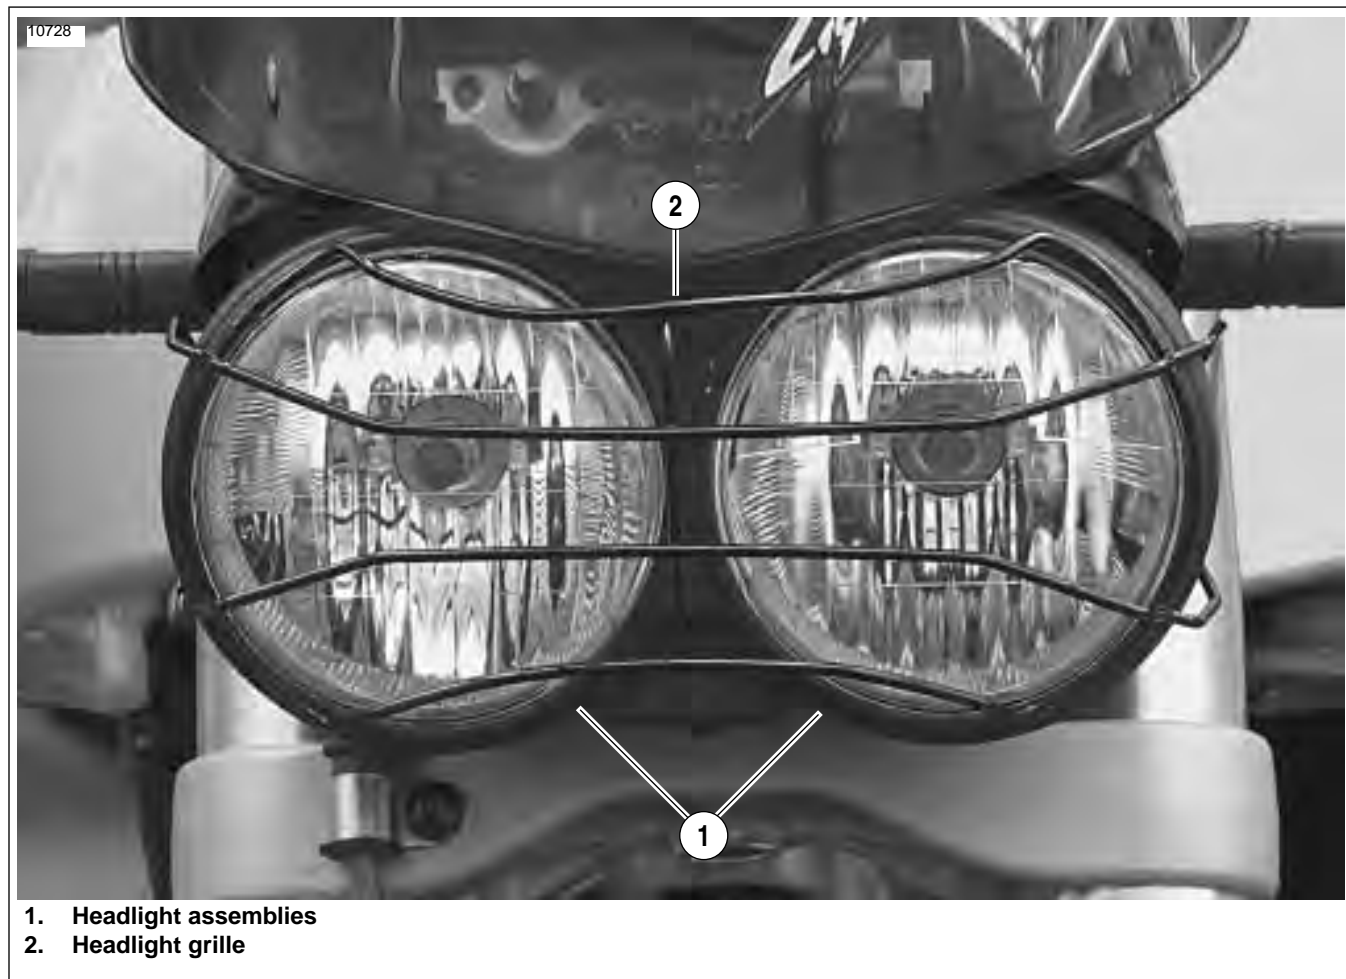

Figure 2-104. XB9SX Headlight Grille
See Figure 2-104. The headlight grille is offered as a standard feature on the XB9SX to provide additional protection for the headlight assemblies.
1. See Figure 2-104. Grab headlight grille on either side and spread to remove from headlight assemblies.